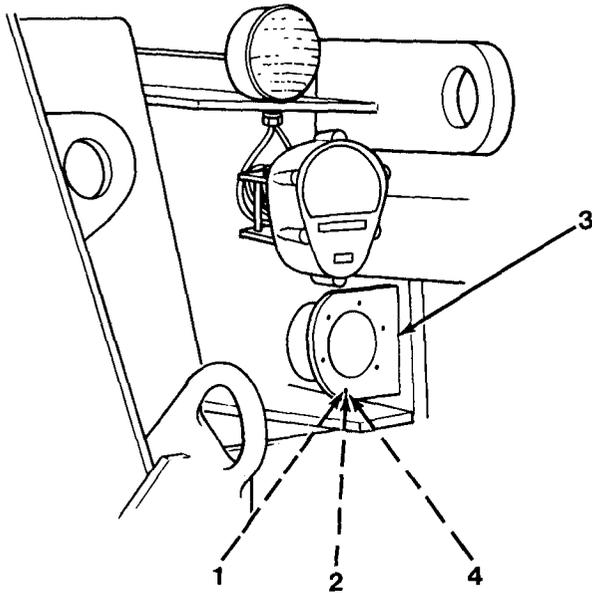

Figure 10-1
3. Remove two nuts (1), two lockwashers (2), travel alarm (3) and two washers (4, Figure 10-1).